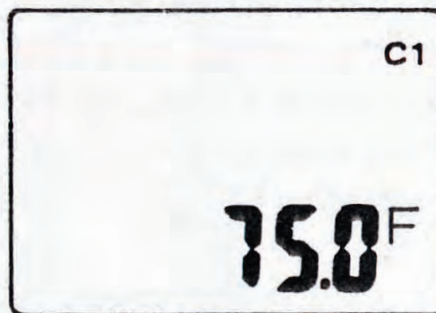

FIG 17
3. Press NX/td key to change the digital flash. Press MN/MX and change the number until it displays 75.0°F as Fig. 17.